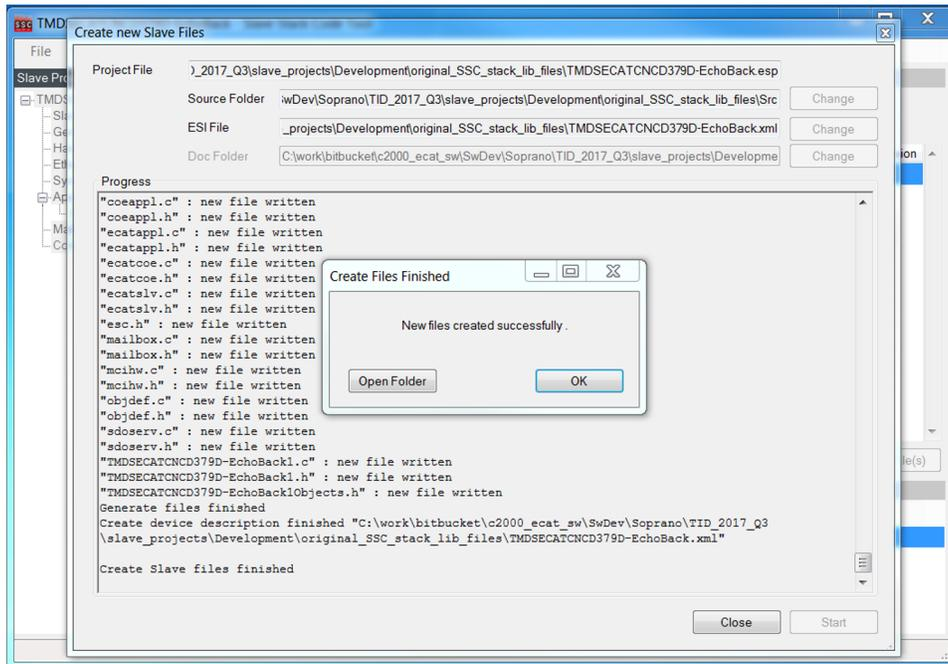

Figure 16. Slave File Creation
9. The slave node source files must be created. Click OK and then close the screen (see Figure 16).